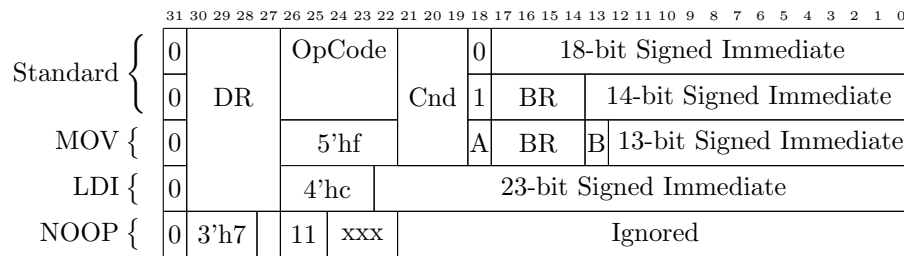

Figure 2.2: Zip Instruction Set Format
All ZipCPU instructions fit in one of the formats shown in Fig. 2.2. The basic format is that some operation, defined by the OpCode, is applied if a condition, Cnd, is true in order to produce a result which is placed in the destination register (DR).
Many instruction forms have a 19-bit source “Operand B”, or OpB for short, associated with them. This “Operand B” is shown in Fig. 2.2 as part of the standard instructions. An Operand B is either equal to a register plus a 14-bit signed immediate offset, or an 18-bit signed immediate offset by itself. This value is encoded as shown in Tbl. 2.6. This format represents a deviation from many other RISC architectures that use R0 to represent zero, such as OpenRISC and RISC-V. Here, instead, we use a bit within the instruction to note whether or not an immediate is used. The result is that ZipCPU instructions can encode larger immediates within their instruction space.
The previous set of operands would be perfect and complete, save only that the CPU needs access to non-supervisory registers while in supervisory mode. The MOV instruction has been modified to fit that purpose. The two bits, shown as A and B in Fig. 2.2 above, are designed to contain the high order bit of the 5-bit register index. If the B bit is a '1', the source operand comes from the user register set. If the A bit is a '1', the destination operand is in the user register set. A zero bit indicates the current register set.